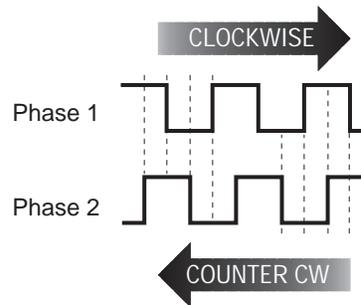

Figure 1. Quadrature waveforms from a rotary encoder contain directional information.
This phase relationship provides the information needed to determine the encoder's direction of rotation (see figure 1).
The dotted lines in figure 1 indicate a common method of reading direction. For instance, if phase 1 is high and phase 2 is rising, the direction is clockwise (CW). If phase 1 is low and phase 2 is rising, the direction is counterclockwise (CCW).
How it works. The circuit in figure 1 plays a short tune each time the PIC is powered up or reset. The speaker connects through a capacitor to two of the PIC's input/output pins. Most PIC circuits switch a load between a single pin and ground or +5 volts. As a result, the largest voltage swing they can generate is 5 volts.